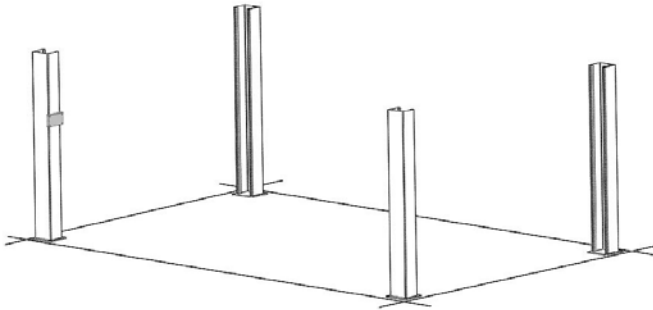

Fig 3.1
1. Place a chalk line on the floor according to the floor plan layout. Pay attention to the power Unit location. Locate and stand the columns at their respective locations. **DO NOT BOLT** Columns down at this time. Use caution to prevent the Columns from falling over. (See Fig. 3.1)